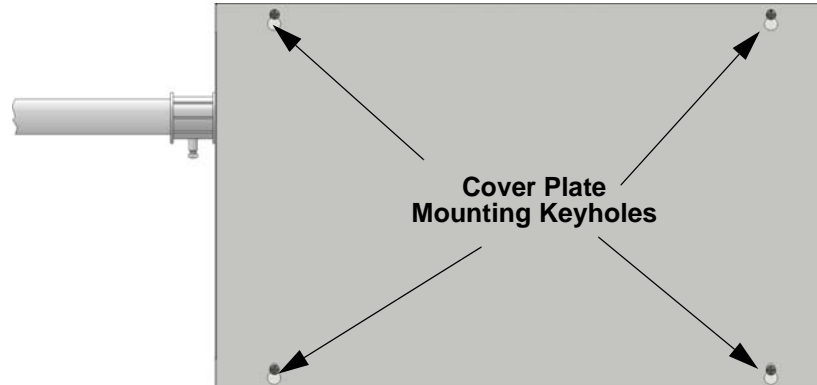

**Figure 4-6 Battery Connections in the RBB Cabinet**
3. Run extended battery cable from control panel cabinet through conduit to RBB cabinet. See Figure 4-6.
*Note: Figure 4-6 is an example of how the wire connections can be routed. However, any other cabinet knock-*
4. Connect battery leads to the backup battery terminals. See Figure 4-6.
5. Insert the RBB cover screws into the cover mounting holes. See Figure 4-6.